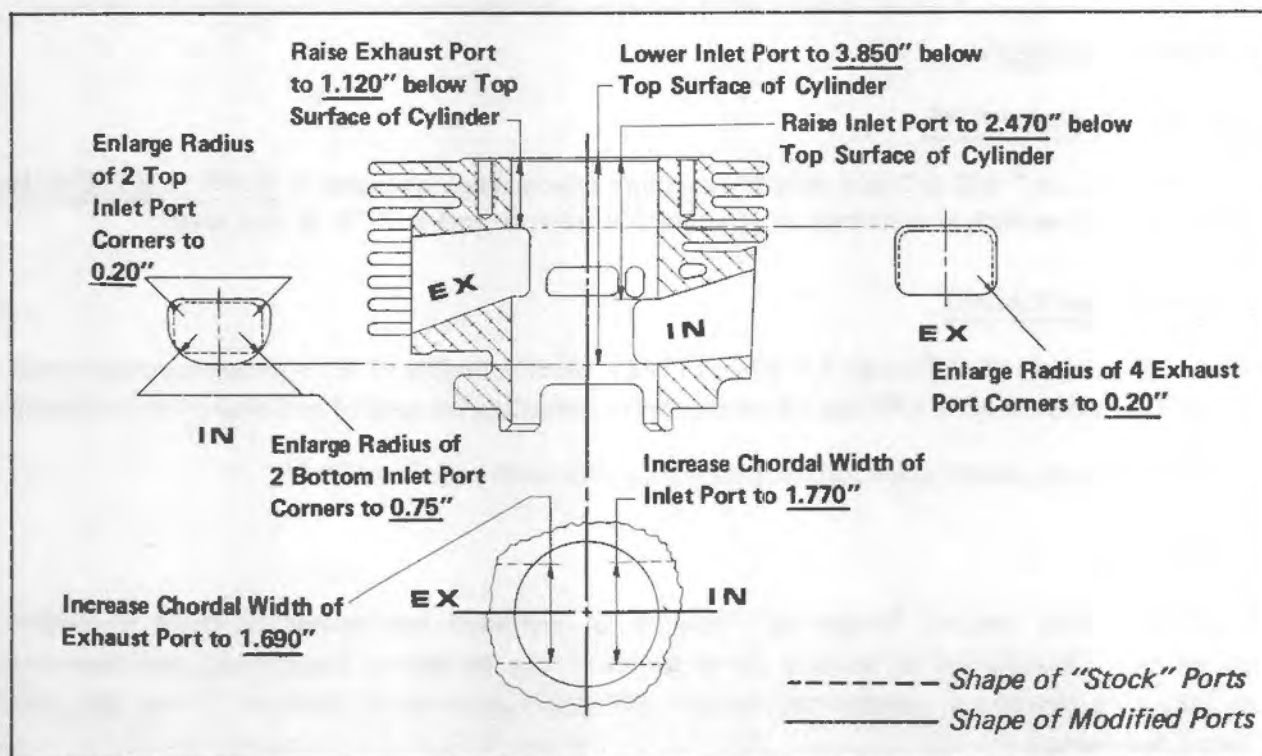

Figure 1. 440 S/T "Modified-Stock" and "Super-Modified" Cylinder Dimensions
- a. Raise top edge of exhaust port to a point 1.120" (28.45mm) below top surface of cylinder. (Figure 1) **DO NOT** change bottom edge of exhaust port.
- b. Increase chordal width of exhaust port to 1.690" (42.93mm). (Figure 1)
**NOTE:** Chordal width (Figure 1) is straight line distance between side edges of port (not following curvature of cylinder wall).
- c. Enlarge radius of 4 exhaust port corners to 0.20" (5.08mm). (Figure 1)
- Lower bottom edge of inlet port to a point 3.850" (97.79mm) below top surface of cylinder. (Figure 1)
- Raise top edge of inlet port to a point 2.470" (62.74mm) below top surface of cylinder. (Figure 1)
- Increase chordal width of inlet port to 1.770" (44.96mm). (Figure 1)
- Enlarge radius of 2 bottom inlet port corners to 0.75" (19.05mm). (Figure 1)
- Enlarge radius of 2 top inlet port corners to 0.20" (5.08mm). (Figure 1)